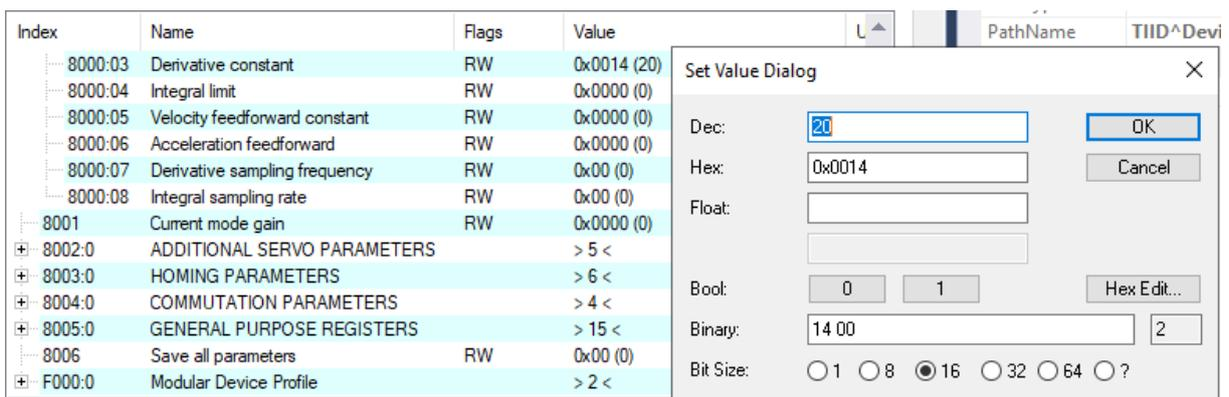

Figure 3.3. Setting the value of an acyclic servo object.
- Perform the configuration of acyclic servo objects relevant for homing, which include PID constants and homing parameters. This is done by double-clicking the objects from the list in Figure 3.3 and set the values as desired. After this is done on all parameters, one could also save the parameters into the non-volatile memory by setting the “save all parameters” object (8007) to 1.